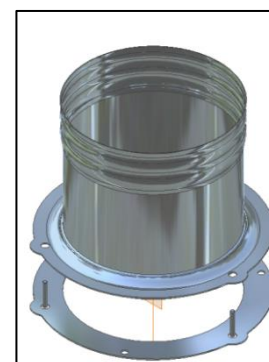

Figure 3-7: 6CON Liner Connector
The Astra 24 fireplace can be connected to a masonry chimney that complies with current national and municipal building codes. A 6" chimney liner that complies with ULC S635 M2000 (Canada) or UL 1777 (US) standards must be installed within the existing masonry chimney. Note that the 6CON connector (manufactured by SUPREME FIREPLACES INC.) must be installed to connect the prefabricated chimney to the liner (6CON sold separately). Refer to Figure 3-7.